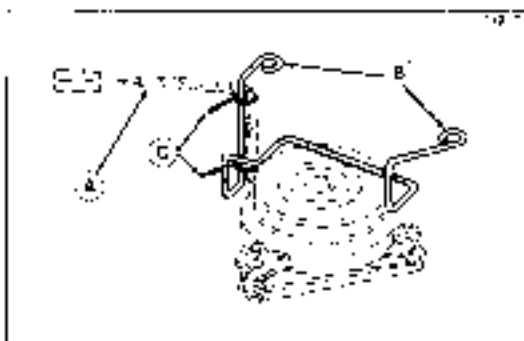

Figure 26. Electric Clutch Wire Harness
3. Disconnect wire harness to electric clutch from the plug (A, figure 26). Remove the (C) securing wire harness (A) to belt stop (B).